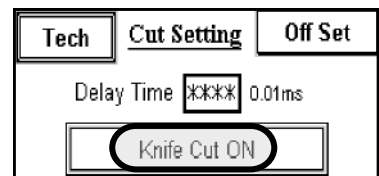

Figure 41
12.5 KNIFE TIMING SETTING. Press **Set Cut** (See Figure 41)